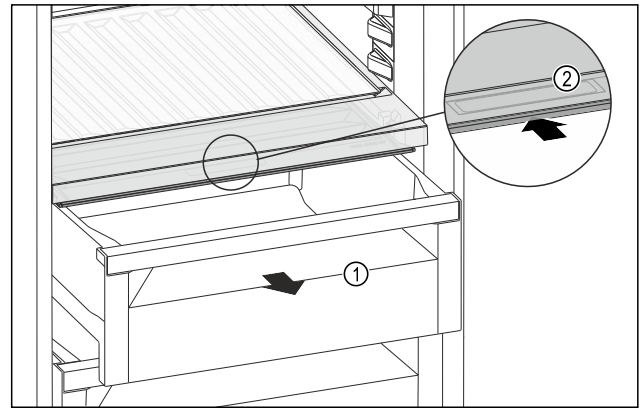

Fig. 112
- Pull out the drawer Fig. 112 (1).
- Grasp the recessed grip Fig. 112 (2) on the compartment lid and push the compartment lid backwards at the same time.